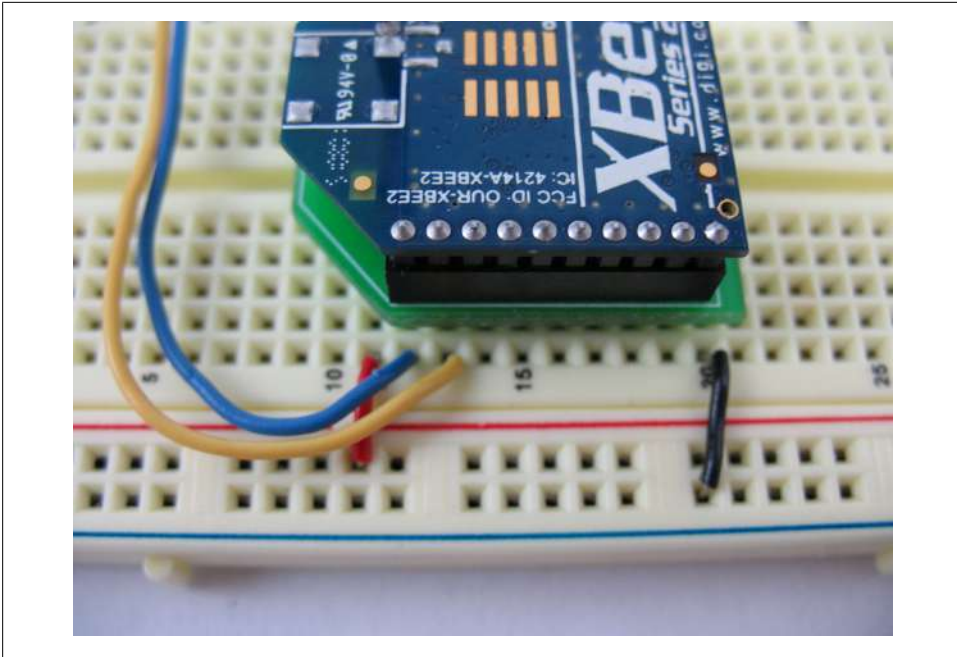

Figure 3-10. Power, ground, transmit, and receive connections on XBee. Note that Arduino TX goes to XBee RX and vice versa.
5. Finally, use blue (or another color) hookup wire to connect pin 3 (RX/DIN) of your XBee to digital pin 1 (TX) on your Arduino. Figure 3-10 shows the connections to the XBee.